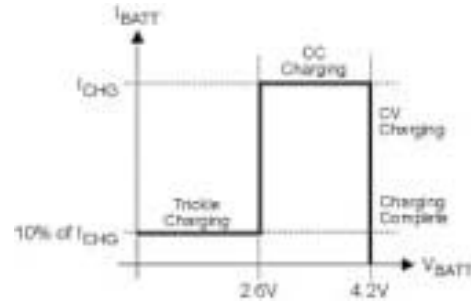

Figure 2—MP26121 Typical Charging Profile
Figure 2 shows the typical charging profile for the MP26121. For a fully depleted battery with a terminal voltage lower than 2.6V, the MP26121 will start with the trickle charge (preconditioning) at 10% of the full charge current based on the value of R_{CHG} . If the charger stays in trickle mode longer than 32768 cycles, \overline{CHG} becomes high impedance, indicating a battery fault. After the battery voltage reaches 2.6V, the charger begins charging using the programmed charge current (I_{CHG}). This is referred to as Constant Current (CC) mode. Once the battery voltage reaches 4.2V, the charger will operate in the constant voltage (CV) mode until the battery is fully charged. The charge current drops during CV mode, and the battery full indication is set when the charge current is reduced to 10% of the programmed constant current value (I_{CHG}). The charge process is then terminated. Recharge will start after the battery voltage is reduced to 4.0V. After 262144 cycles of continuous charging, if the battery still has not reached 10% of the I_{CHG} condition, the on-chip timer will terminate the charger to prevent charging the dead battery excessively and the fault condition will be flagged by flashing the \overline{CHG} LED.